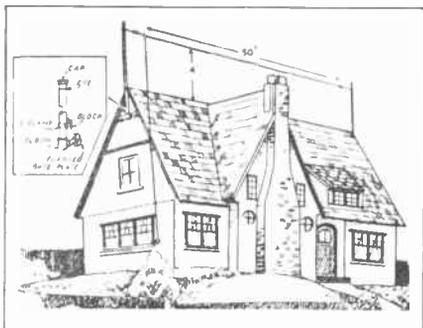

FIG. 2
2. Suppose you were called upon to erect an antenna where there are no nearby trees, house nor garage. A solution is shown in Fig. 2. This installation will not be difficult once you get the supports in place.